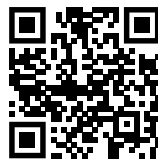

Fig. 121
► Åbn Liebherr SmartMonitoring Dashboard. (se Fig. 121)